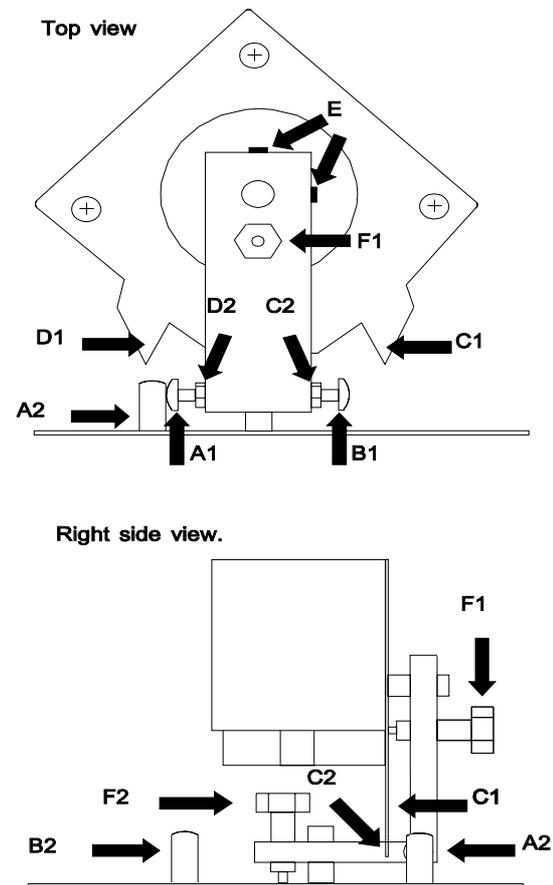

Figure 2
- Use the controller to move the mirror to the extreme left position, thus positioning the screw (A1) in figure 2 at the upper mechanical stop (A2).
- Use the controller to move the mirror to the upper-left position until the top mechanical stop (C1) in figure 2 is positioned at the edge of the mirror bracket (C2)
- Loosen the two allen-screws (E) holding the axle of the motor while observing that the motor does not slide vertically from its current position.
In order to produce a smoother mirror movement and prevent the mirror motors from losing steps during high-speed direction changes, the dampers F1 and F2 in figure 2 must be adjusted
- Loosen the dampers marked (F1) and (F2), see figure 2, until the spring-loaded plastic pin is not touching the motor. Using the controller, set the Pan/Tilt speed to minimum and turn the lamp on. Then, still using the controller, move the mirror from either extreme left to extreme right for Pan adjustment, or, extreme top to extreme bottom for Tilt adjustment. Whilst the mirror is moving watch the beam movement to ensure that it is smooth. Tighten the dampers (F1) and (F2) until the smoothness of the mirror movement is affected and it becomes more 'twitchy'. At this point you should turn the dampers slightly back so that you restore the full smoothness of the mirror movement.